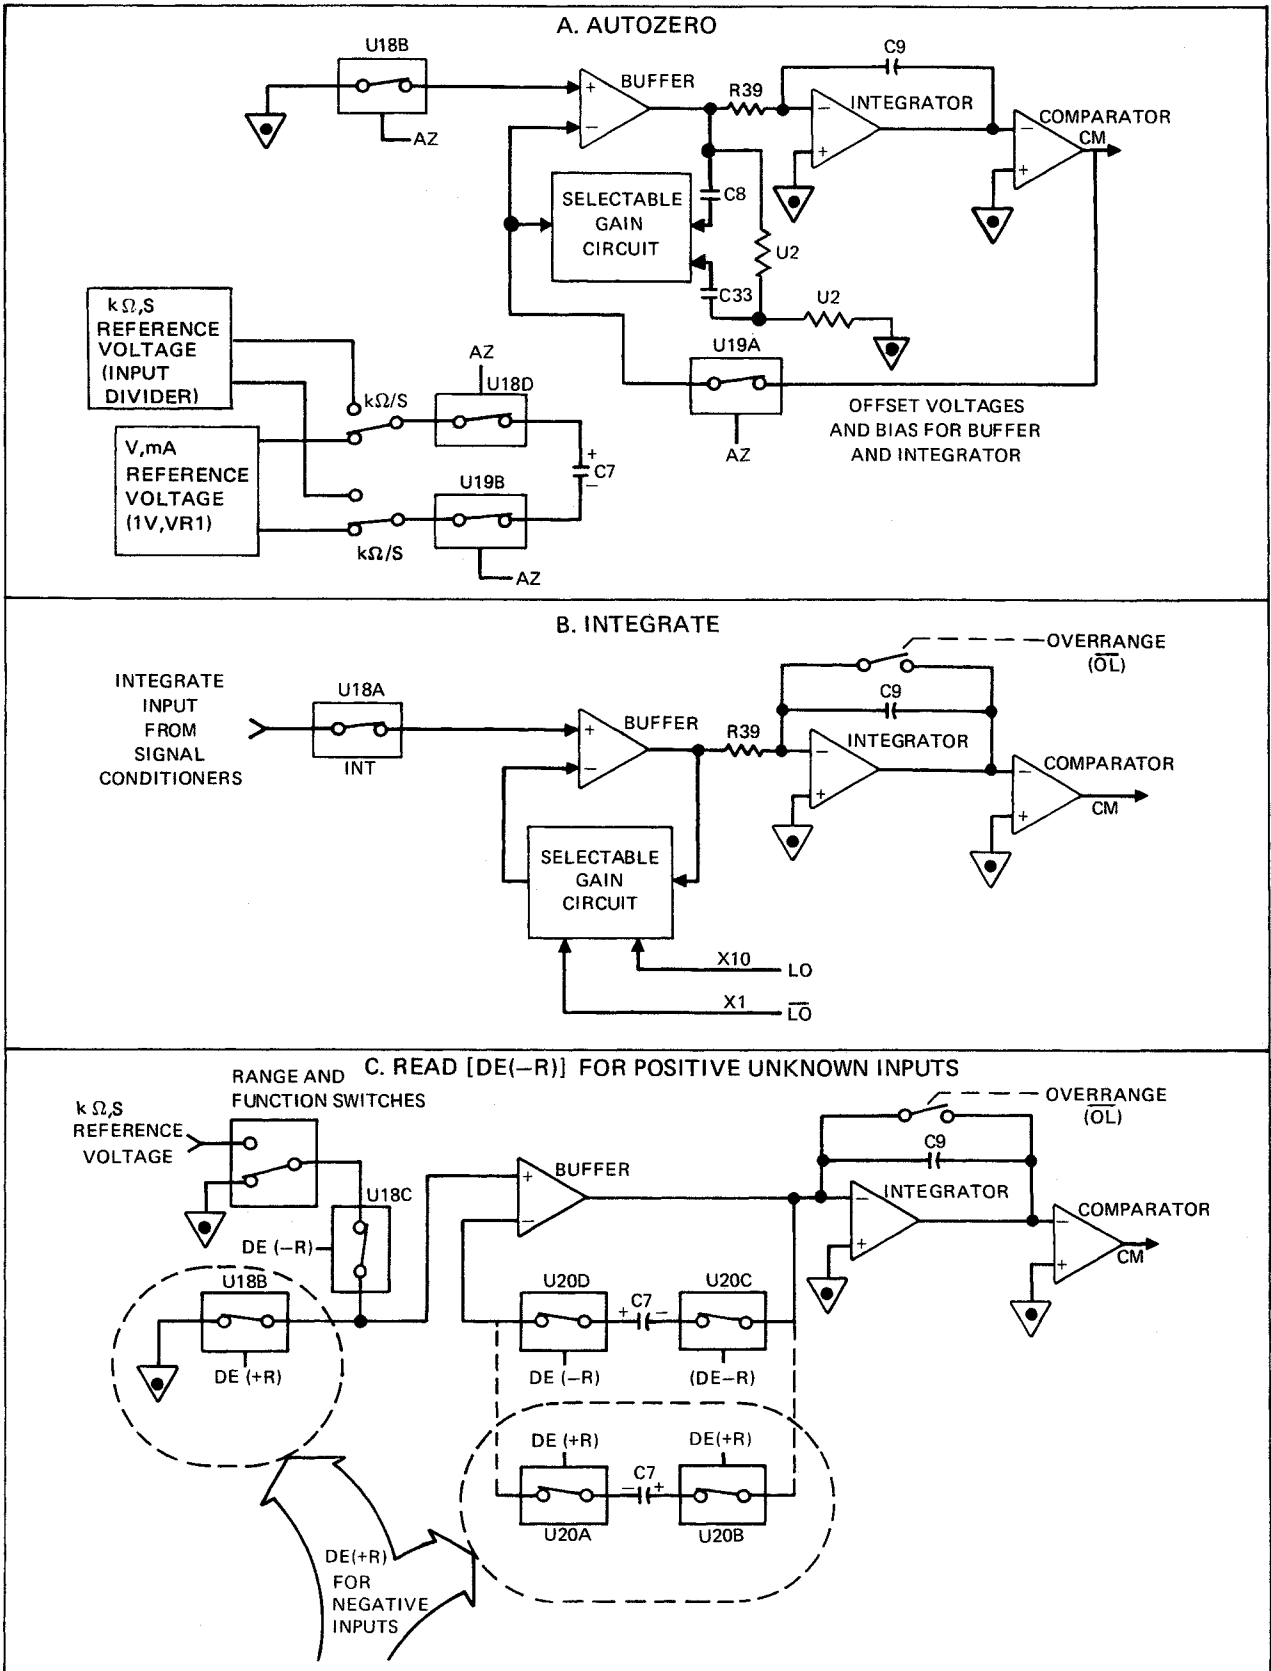
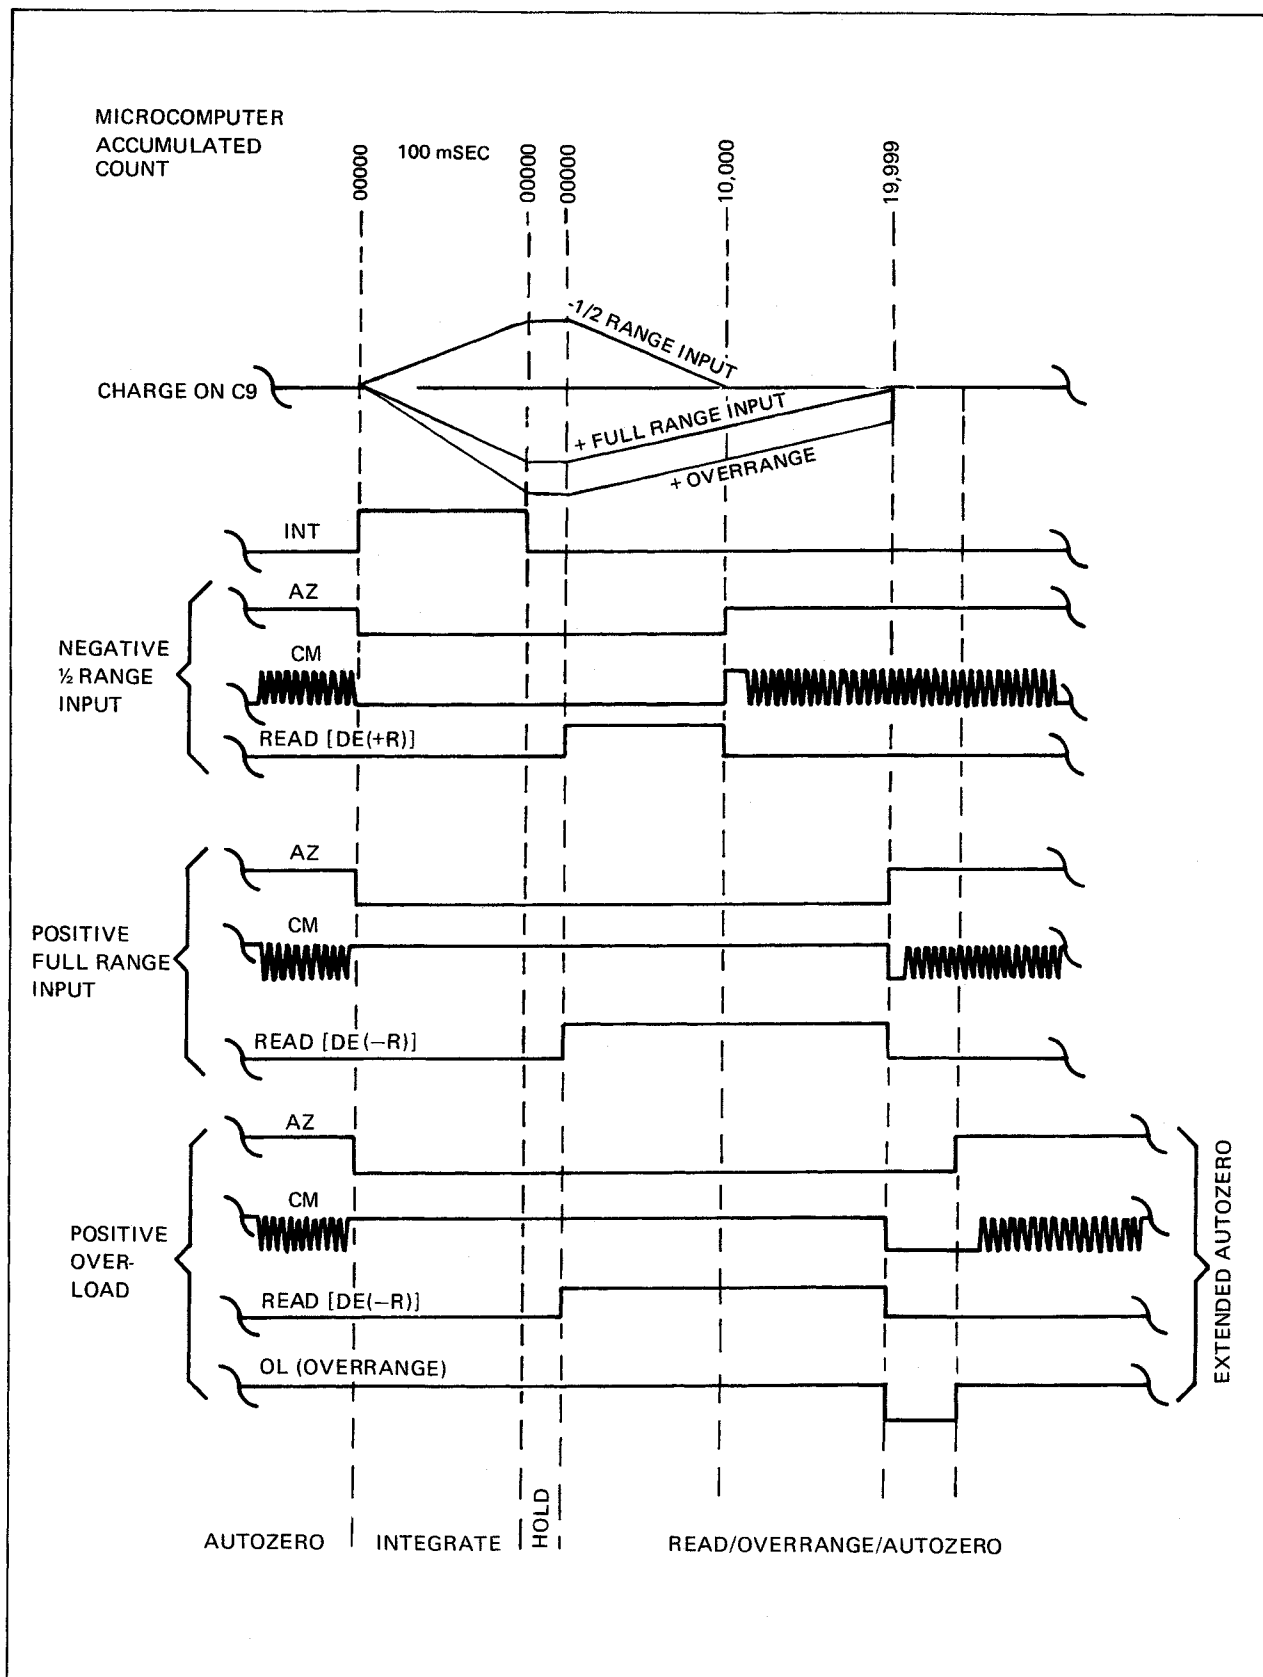

Figure 3-2. A/D Converter
Figure 3-3. A/D Converter Waveforms
3-9. The microcomputer controls the a/d converter via CMOS switches. Figure 3-2 shows the simplified circuits formed during the major periods of a/d conversion cycles. Figure 3-3 is a timing diagram that shows the a/d converter cycle resulting from three different input signals. Assume in reading the following paragraphs that the DC V function and the 2V range are selected, and the DMM is nearing the end of the Autozero period in its conversion cycle.
3-10. As Part A in Figure 3-2 shows, the CMOS switches U18B and U19A are closed, providing voltage levels that allow C8 and C33 to store the offset voltages of the buffer, integrator, and comparator. CMOS switches U18D and U19B connect the flying capacitor, C7, to a reference voltage. Since the V function is selected, C7 is charged by the a/d converter reference voltage source. At the end of the Autozero period, C7 is fully charged, C8 and C33 are charged up to the offset voltages, and the comparator output (CM) is near a threshold level.
3-11. Assume that an input of -1.0000V dc is present at the DMM input (first set of waveforms in Figure 3-3). The microcomputer starts the Integrate command (INT) at the same time that it ends the AZ command. The a/d converter circuit is switched to the configuration shown in Figure 3-2, Part B. CMOS switch U18A connects the output of the signal conditioners to the input terminal of the buffer. For the 2V range, the microcomputer selects the X1 gain in the buffer, and the input from the signal conditioner is applied to the buffer and integrator in series. The integrator begins to charge C9. The instant that the charge on C9 shifts from its initial level, the comparator toggles, and its Compare output (CM) goes to a steady level. Since the unknown input to the DMM is
3-13. Since CM is negative, the microcomputer initiates the Read period with the DE (+R) (de-integrate plus reference) command (Part C of Figure 3-2), CMOS switch U18B connects the buffer input to COMMON, and CMOS switches U20A and U20B connect C7 in the buffer feedback loop so that the integrator input is a known level (1V) of the opposite polarity from the input signal. The integrate capacitor, C9, begins to discharge, and the microcomputer starts to count from 00000. The count accumulates until C9 discharges to its initial level. The instant C9 reaches its initial level, the comparator toggles CM positive, stopping the count in the microcomputer. The count in this case will be 10,000. This count (with the appropriate decimal point) is numerically the same as the -1.0000V dc input to the DMM.
3-15. The bottom set of waveforms in Figure 3-3 shows the timing that results from a positive overrange input to the DMM. If the count in the microcomputer reaches 20,000 before CM toggles, the microcomputer detects this as an overrange condition and issues the overload ($\overline{OL}$) command for 5 millisecond. The $\overline{OL}$ signal shorts C9, dumping the remaining charge. The following Autozero period is doubled to 200 millisecond. The polarity of the overrange input signal is retained and displayed.